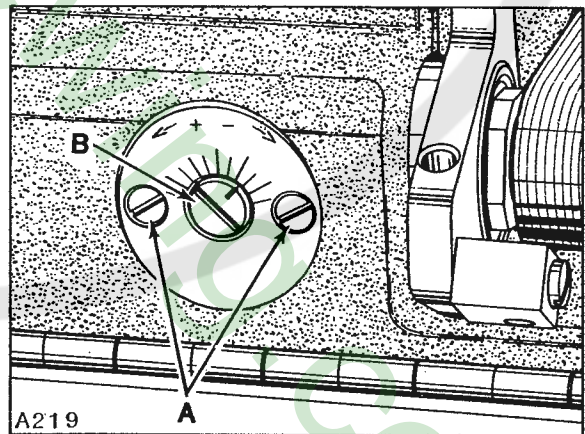

Fig. 13
looper blade/s. Adjustment can be made by loosening two screws (A, Fig. 13) and turn eccentric stud (B) towards the plus side (counterclockwise) for MORE looper avoid or towards the minus side (clockwise) for LESS. When properly set, tighten screws (A).